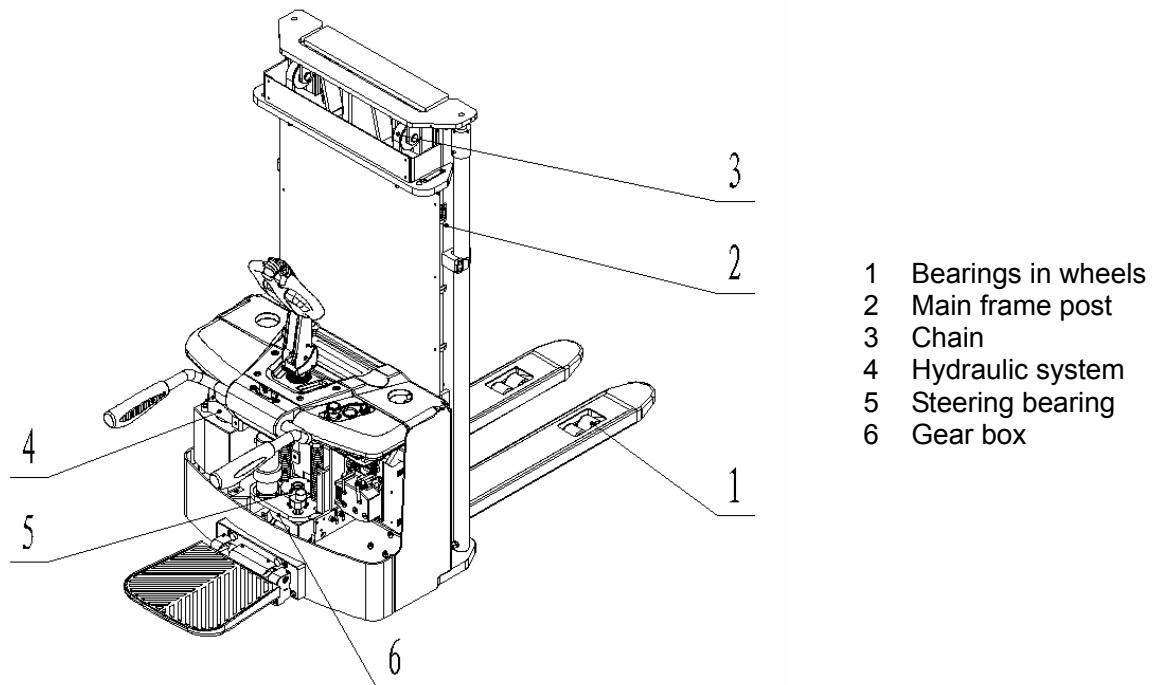

Fig. 15: Lubricating points
Park the truck securely and switch off the stacker with the key (1) and activate the emergency button (3). Open the battery cover and pull out the hinge. Then remove the battery cover, unscrew and remove the battery fixing plate, pull out the battery plug (Fig.15), and take the batteries out carefully. The installation is in the reverse order of the removal. Please connect the positive terminals firstly. Otherwise the truck could be damaged.